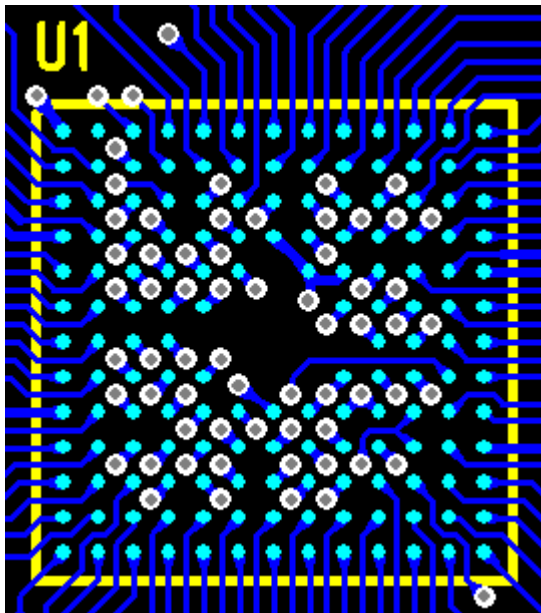

Figure 11. Top Layer 157-Ball BGA Escape Routing
Figure 11 shows the recommended top layer routing pattern used to escape the BGA. The light blue dots are the BGA landing pads (Also shown as B in Figure 2). The white circles with black centers are vias.
Some things to note about Figure 11:
- With proper planning, a few select balls from the third row can be routed on the top layer as shown in Figure 11.